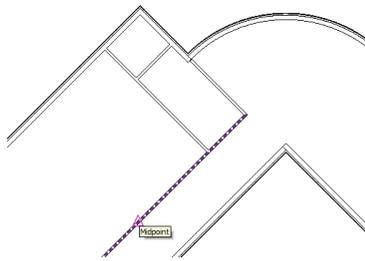

Figure 3-74 Starting the fifth interior wall from the midpoint of the first interior wall
10. To create the next wall, bring the cursor close to the midpoint of the first interior wall until the midpoint object snap appears, as shown in Figure 3-74. Click on the drawing to start the wall.